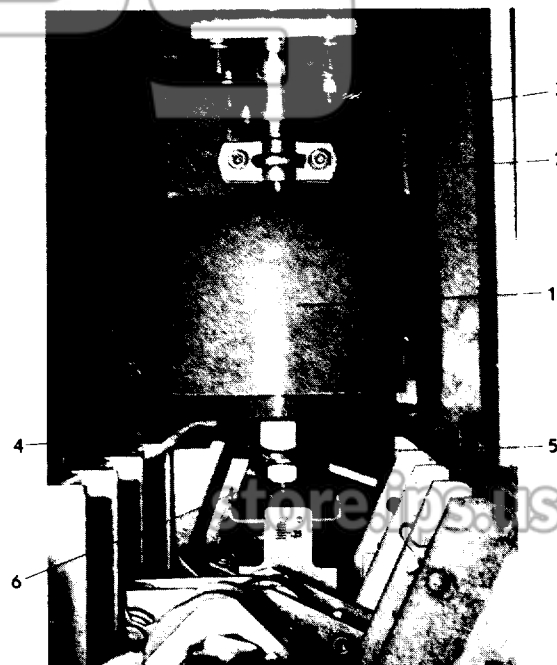

Fig. A2 Operating Rod — Viewed from Rear
To remove the coupling clamp, (2) Fig. A2, which connects the operating rod to the vacuum interrupter, close the breaker and remove the two screws which hold the two halves of the coupling clamp together. When reinstalling, torque the two clamp screws to 10 to 12 foot pounds.
1. Close the breaker and remove the coupling clamp, (2) Fig. A2. Open the breaker and remove the four bolts holding the pole assembly to the mechanism and remove the old pole assembly.
3. Close the breaker using the Slow Closing Operation as described in paragraph 5.2. Perform the closing operation slowly while guiding the tip of the operating rod into the base of the movable contact rod, (3) Fig. A2, on the vacuum interrupter. After the breaker is fully closed install the coupling clamp.
To remove the operating rod, (1) Fig. A2, close the breaker, remove the coupling clamp and trip (open) the breaker. The operating rod is then removed by loosening the locknut, (6) Fig. A2, and unscrewing it from the wipe spring assembly.
To reinstall, screw the operating rod on the wipe spring assembly and adjust the distance between the top of the operating rod and the bottom of the movable contact rod, (3) Fig. A2, to the gap required for the breaker as shown in the following chart:
Lock the operating rod in its initially adjusted position by tightening the locknut, (6) Fig. A2, against it. Slowly close the breaker as described in paragraph 5.2. Guide the tip of the operating rod into the recess in the bottom of the vacuum interrupter movable contact while the breaker is being slowly closed.